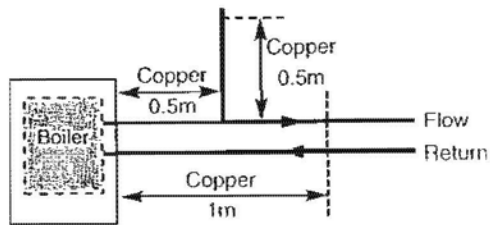

Fig. 2
3. In systems using non-metallic pipework it is necessary to use copper pipe for the boiler Flow and Return. The copper must extend at least 1 metre from the boiler and include any branches. The copper pipe must not be insulated (Fig. 2).